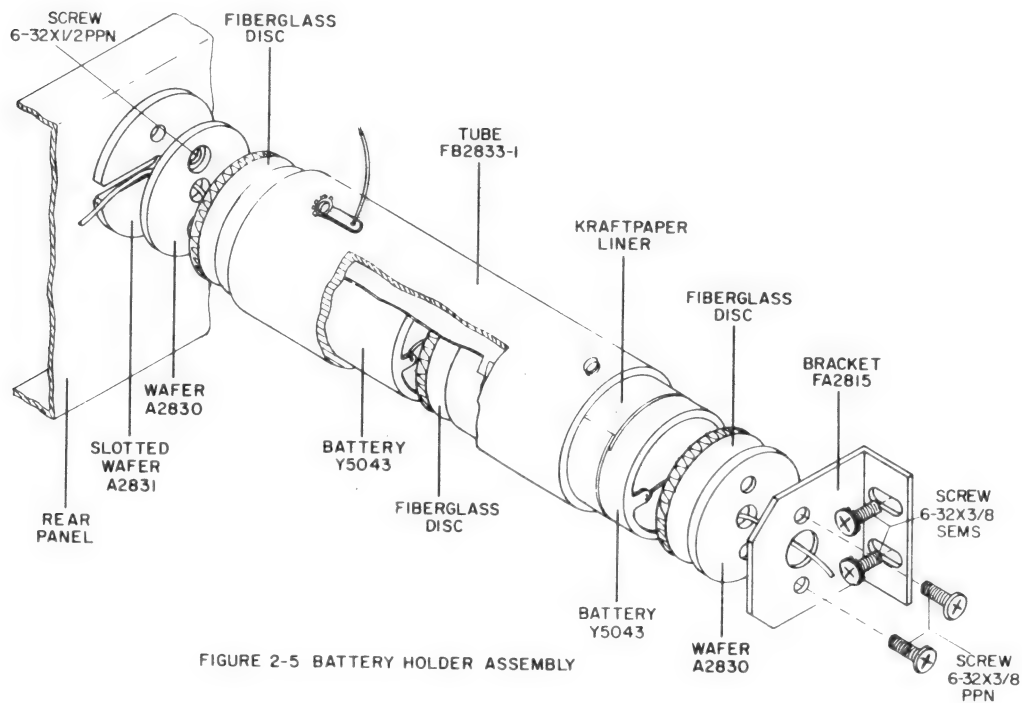

Figure 2-5. Installation of Battery Holders
2.6.2.1 There are two battery holders, one for the +22 volt supply and one for the -22 volt supply. Except for the polarity of the battery connections, the assembly procedure is the same for both. Refer to illustration, Figure 2-5.